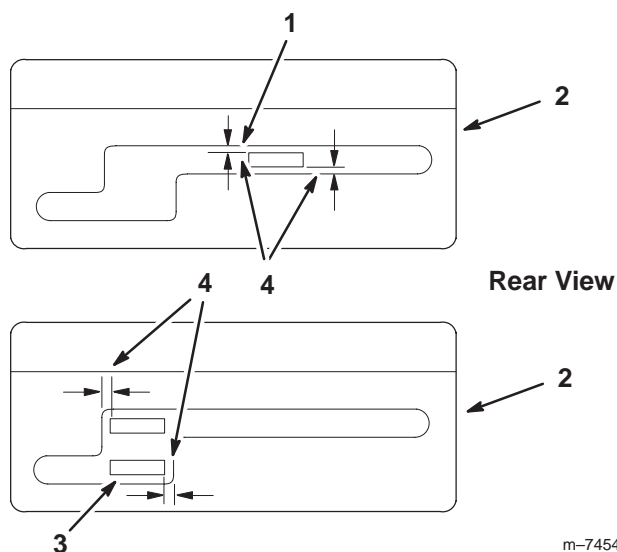

Figure 10
1. Shift lever to second gear and check alignment of lever in slot of shifter lever plate. The clearance between top and bottom of the shift lever should be equal (Fig. 10).
2. If clearance is not correct, remove lever and bend it slightly to adjust (Fig. 10).
3. Shift lever to neutral and check alignment of lever in slot of shifter lever plate. The clearance on the sides of shift lever should be equal (Fig. 10).